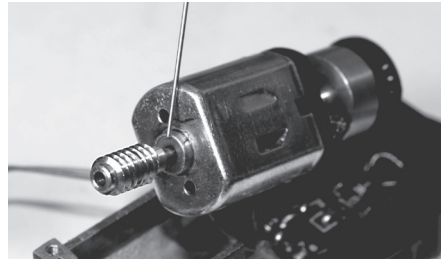

Figure 18 - Lubricate the front shaft
3. Place a *small* drop of lubricant on the front shaft where the bearing is located as shown in Figure 18.